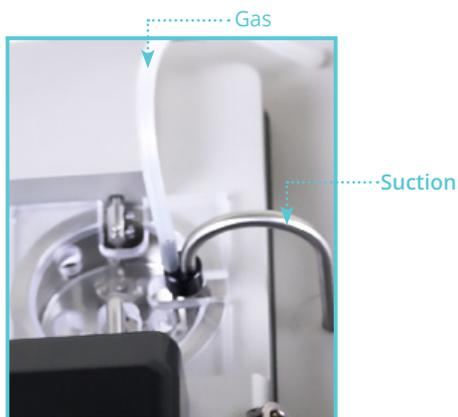

Figure 2.2 Suction connection
2. **Oxygen Supply:** Connect the gas supply (95% O2, 5% CO2 or 21% O2, 5% CO2, balance N2) with tubing running from the gas supply to the gas inlet on the back of the Interface. Oxygen is supplied to the chambers by tubing attached to the stainless steel vacuum pipe. The oxygen and vacuum tubing need to be inserted into the chamber in order to aerate the heated buffer. Needle valves on the back of the interface can be adjusted to regulate the amount of bubbling that occurs. Turning the regulator clockwise increases the bubbling while turning it counter-clockwise decreases the bubbling. Each regulator has a lock device attached that can be used when the desired bubbling is achieved. See Figure 2.2 on next page.
3. **Vacuum Connection:** The system has a built-in manifold with separate valves that allows each chamber to be drained individually. After connecting the vacuum source at the back of the Interface, the vacuum pipes need to be inserted into the chambers in order for this feature to work properly. The pipes are inserted into the chamber by gently pulling up on the curved part of the pipe, turning it 90° counter-clockwise and gently lowering it into the chamber. A chamber can then be emptied by pressing the corresponding numbered button. Pressing the “all” button will empty all the chambers at the same time, see Figure 2.2.